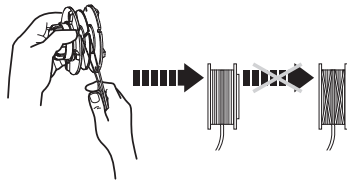

Fig. 32
6. Wind all the trimming lines firmly around the trimming spool in direction of the arrows on the trimming spool (18c) (Fig. 32).